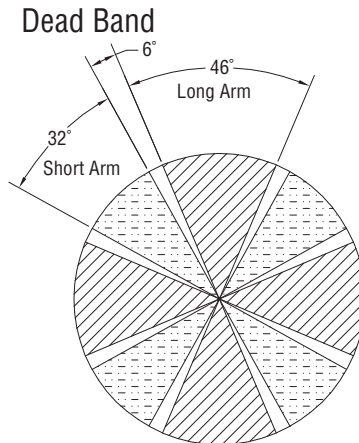

Figure 4-6, Arm Movement
1. Arm movement is controlled by the position and sequence function of the swivel valve. (Figure 4-6)
3. Positioning of the short arm will be allowed as shown in Figure 4-6.